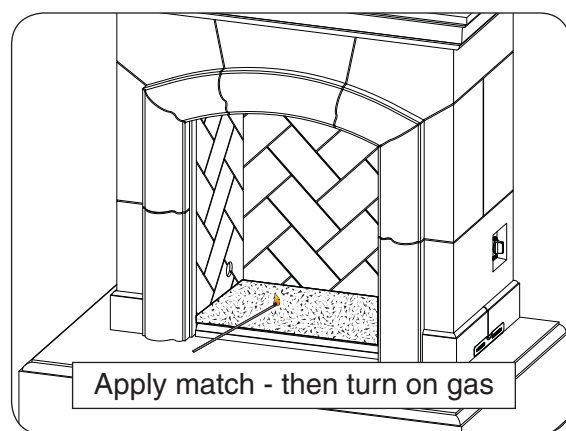

Fig. 19-1
3. Lay a lighted match on the surface of the decorative media near the burner (**do not hold the match in your hand**) or use a lighted long-stem match/long-necked butane lighter (Fig. 19-1).